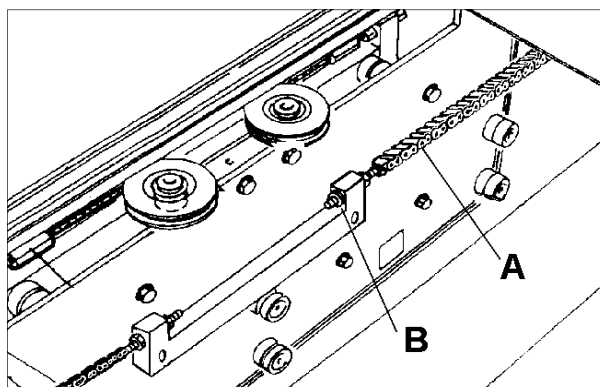

fig.7.2
- b.2) Check the tension of the front chain (A) and if necessary adjust it by means of the adjusting screw (B) (see fig.7.2). Lubricate with grease.